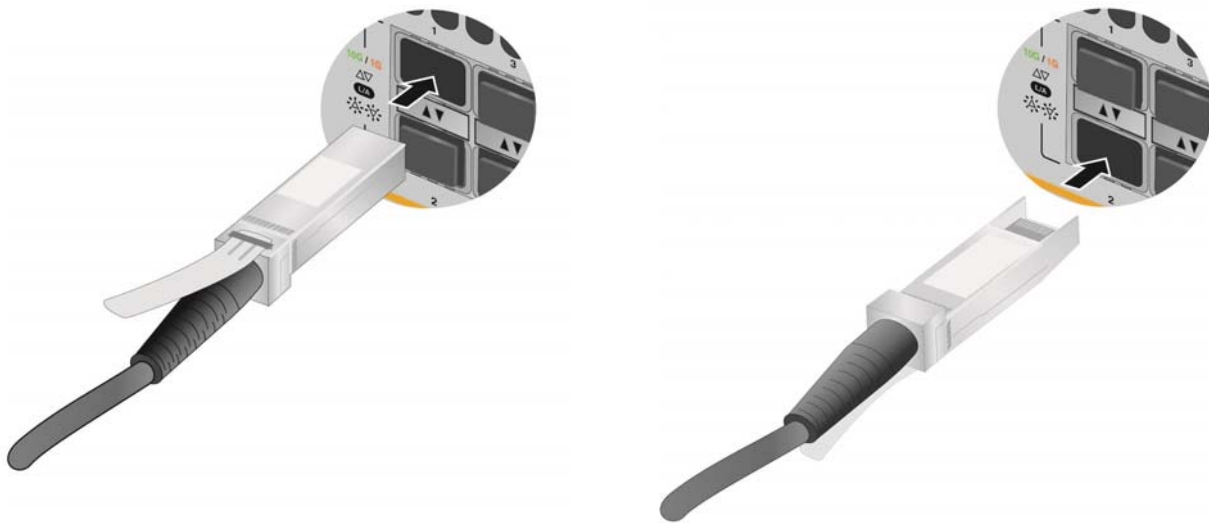

Figure 72. Installing AT-SP10TW Cables
3. To install the transceiver in a slot in the top row, position the transceiver with the Allied Telesis label facing up. To install the transceiver in a slot in the bottom row, position the transceiver with the label facing down. Refer to Figure 72.